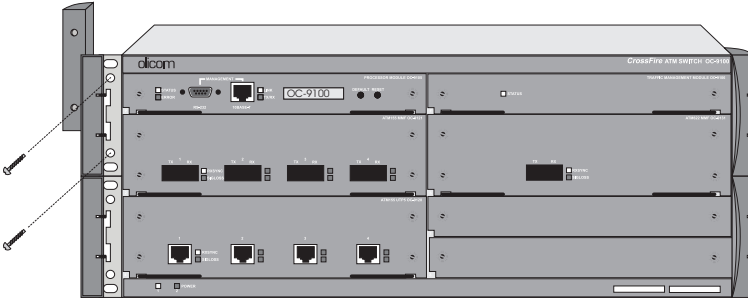

Figure 17. Removing the Bracket Covers to Expose the Rack Mounting Bracket
1. Remove the bracket covers on each side of the CrossFire 9100/9200 ATM Switch to expose the rack mounting brackets. Access to the retaining screws is obtained by opening the cap on the front of each bracket cover. See figure 17. Use the Allen key supplied with the switch to remove the two 6 mm Allen screws. When you have removed the screws, push the bracket cover towards the back of the switch and lift the cover off. Keep the screws for later use.
2. Position the switch, with the exposed mounting brackets, in the rack or cabinet and slide it up or down until the bracket holes line up with the rack holes. See Figure 17. Attach the chassis brackets to the rack using the Allen screws you removed in step 1 and the nuts supplied with the switch. Close the cap again to conceal the screws.